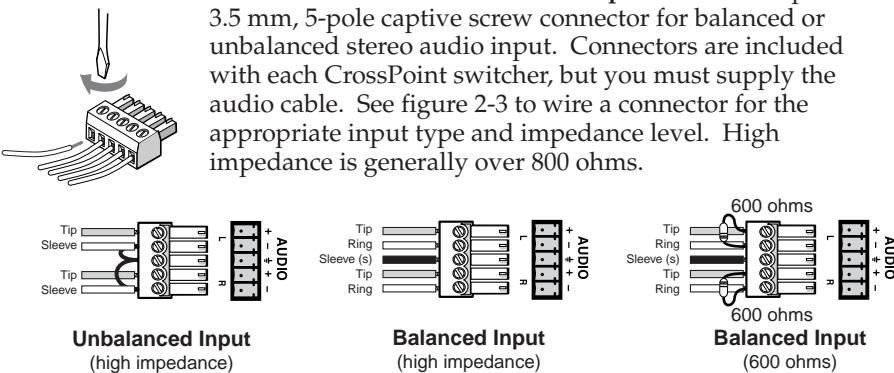

Figure 2-3 — Captive screw connector wiring for inputs
- ④ Connections for balanced and unbalanced audio inputs — Each input has a 3.5 mm, 5-pole captive screw connector for balanced or unbalanced stereo audio input. Connectors are included with each CrossPoint switcher, but you must supply the audio cable. See figure 2-3 to wire a connector for the appropriate input type and impedance level. High impedance is generally over 800 ohms.